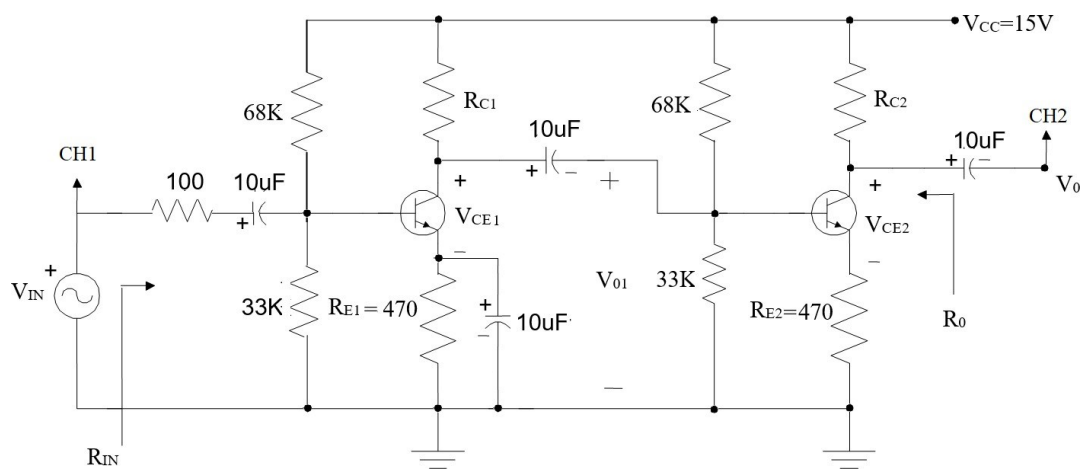

Fig.1 RC Coupled Amplifier
- Construct the circuit as shown in Figure 1.
1. Construct the circuit as shown in Fig. 1. Verify that both the transistors are properly biased in the active region.